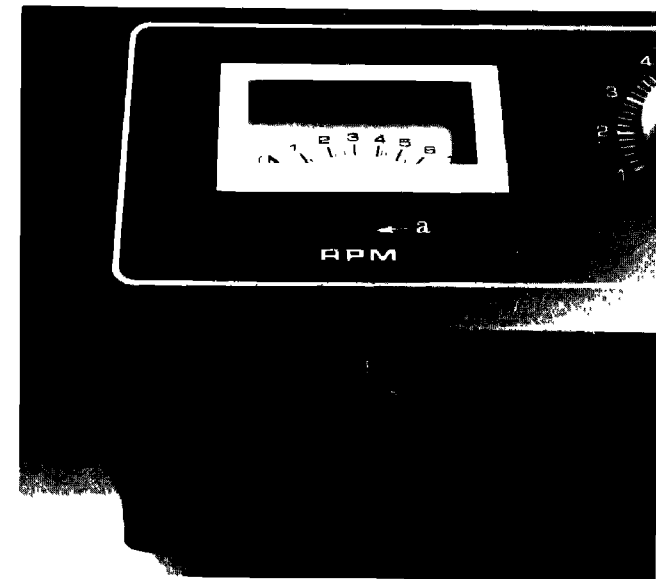

Figure 19. RPM Meter, Showing Zero Adjust (a) and Calibration (b) Hole
3. Close the door and pull the centrifuge forward a few inches over the edge of the table, just far enough to expose the calibration adjustment hole under the control panel. See Figure 19.
4. With instrument power still off, zero the RPM meter by adjusting the screw under the meter scale on the control panel (Figure 19).
8. Turn the adjustment screw under the control panel (Figure 19) to set the RPM meter so that it agrees with the stroboscopic reading.